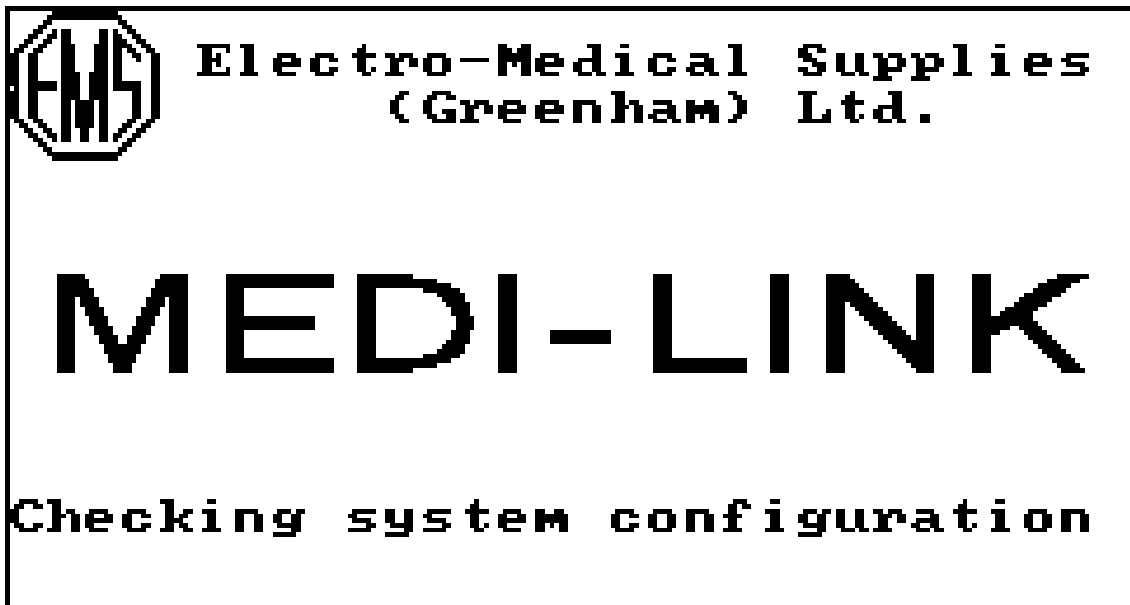
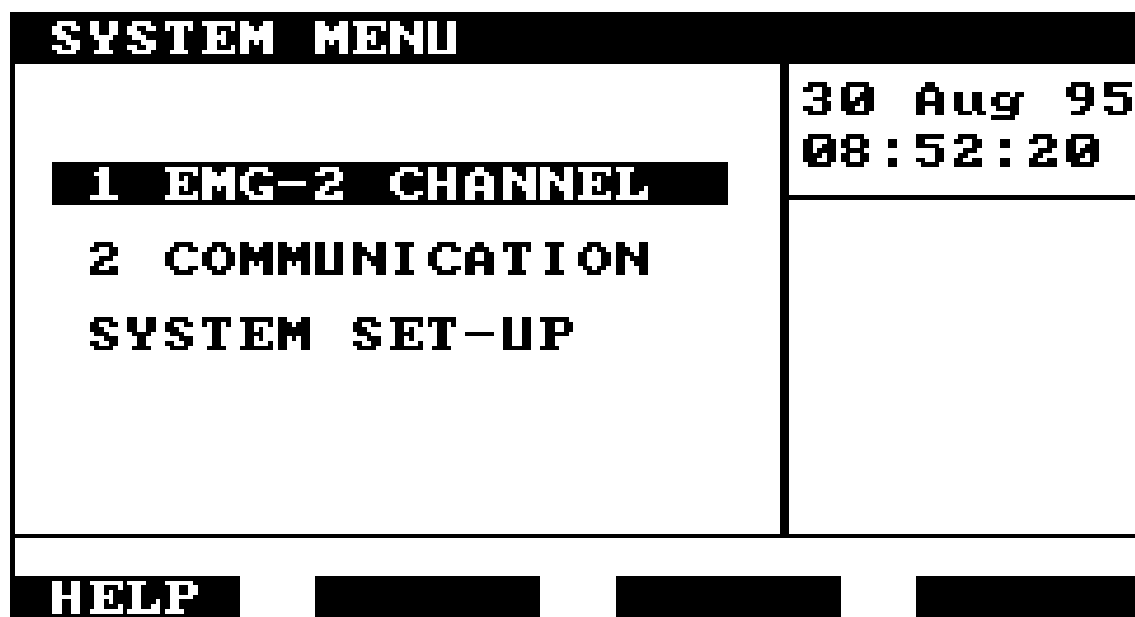

Figure 1 - Logos and Company name
Figure 2 - System Menu
8. The system will display the EMS logo, Company name and MEDI-LINK followed by the message "Checking system configuration" (see figure 1). The Medi-Link will detect the presence of the EMG Module, give a short beep and display the messages "Configuration has changed" and "Loading application programs". The Medi-Link will then take between 15 and 45 seconds to re-configure itself and load the new application.
9. On successfully loading the application programs the display will show the System Menu screen (see figure 2).
1. Having connected the Medi-Link system to a suitable mains supply and positioned the display at a suitable angle, switch on using the power switch on the Control Module. The mains indicator on the Control Module will light and the display will show the title screen (figure 1) and after approximately two seconds, the System Menu will appear (see figure 2).